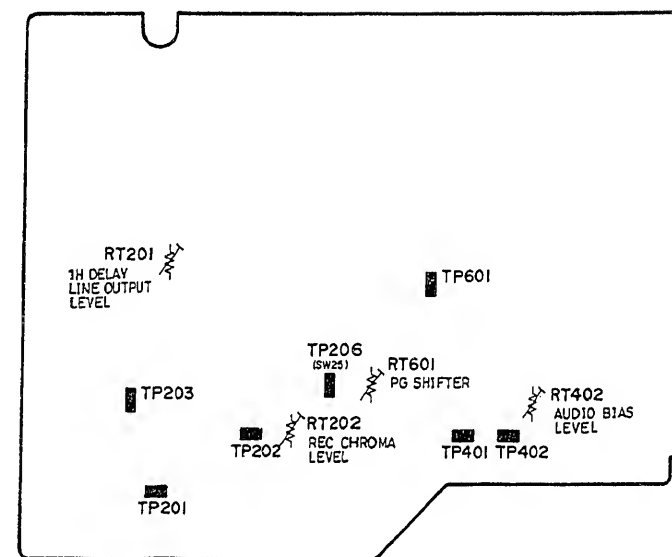

Fig. 4-151 Main Circuit Board
1) Audio Bias Level Adjustment (Fig. 4-151)